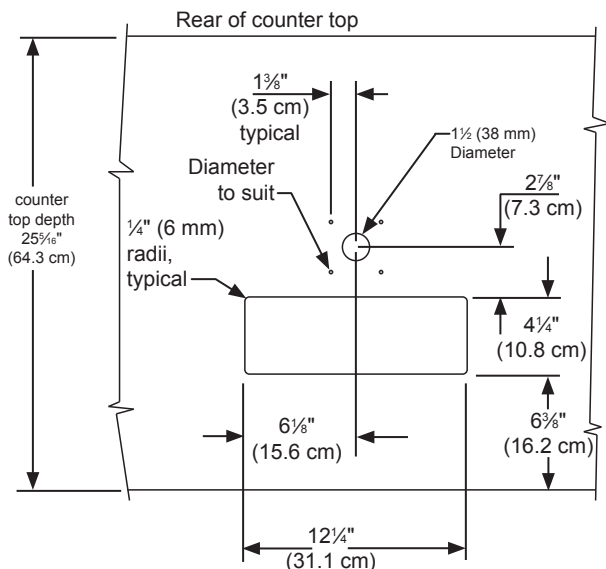

Figure 24
The cutout dimensions shown in Figure 24 are based on a 25 $\frac{5}{16}$ " (64.3 cm) deep counter top. Your counter top may be different than this and require other front to back dimensioning. Refer to the product dimensions on page 8 when determining the required dimensions.
4. If you are installing your keg refrigerator under a counter you will need to drill 5 holes in the counter top to mount the tower. The first hole is a 1 $\frac{1}{2}$ " diameter hole located at the center of the tower for the beer line, locate approximately 13 $\frac{1}{2}$ " (34.3 cm) from the front edge of the counter top (based on a counter top depth of 25 $\frac{5}{16}$ "). Next drill the 4 tower mounting holes per the dimensions in Figure 24. The hole diameter is dependent on the counter top material and if screw anchors are required. The screws supplied are in the literature pack and are a #10 x 1" type AB stainless steel screw. Mark and cut the rectangular cutout for the drain sump. After the holes are drilled and the keg refrigerator is in place under the counter top feed the beer line through the tower gasket, the 1 $\frac{1}{2}$ " hole in the counter top and the hole in the top of the keg refrigerator. Mount the tower to the counter top with the 4 screws provided. Place the counter top drain sump, from the literature pack, in the rectangular hole with the radius cutout to the rear around the tower and place the grate in the sump.